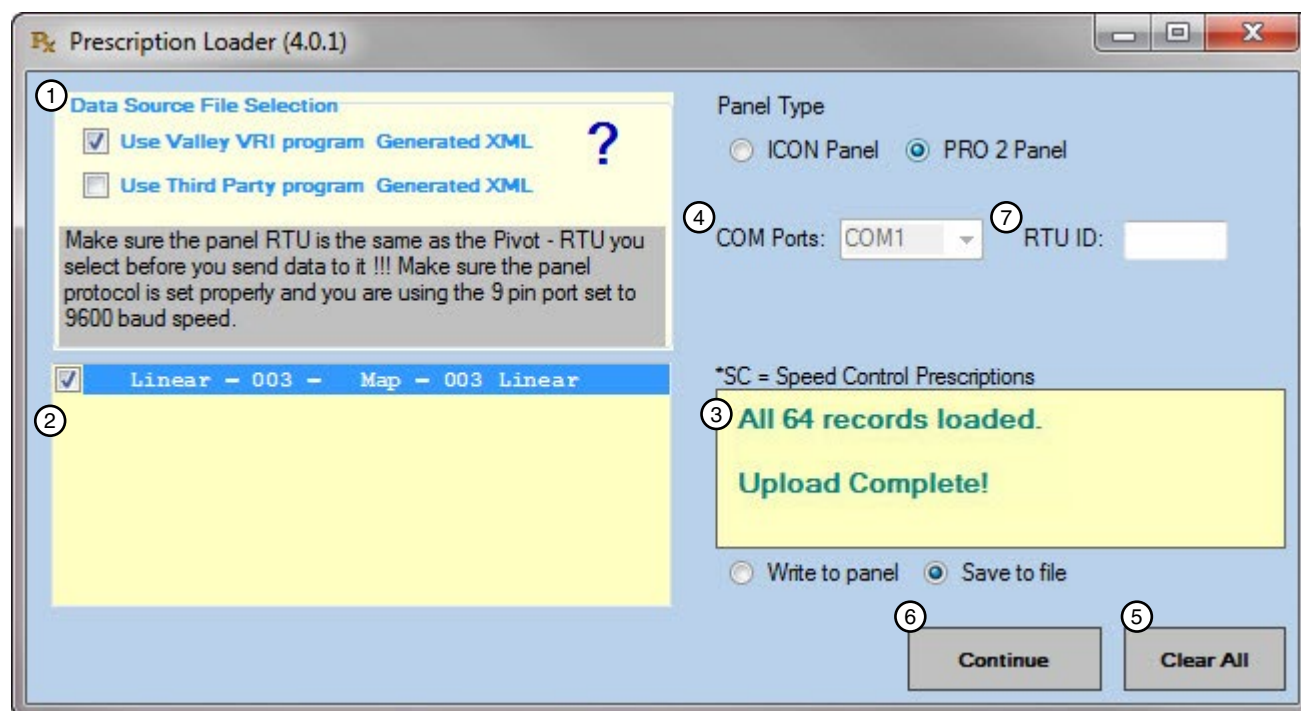

Figure 41-1 1. Data Source File Selection 3. Prescription Disposition Area 5. Clear All Button 7. RTU ID
6. Enter the RTU ID of the panel. This will be used instead of the number created prescription software. See Figure 41-1.
7. Select one of the following by clicking on the appropriate checkbox: See Figure 41-1.
8. If writing to the panel, select the COM port to be used in the drop-down menu. See Figure 41-1.
9. Click **Continue** to be taken to the next screen. See Figure 41-1.